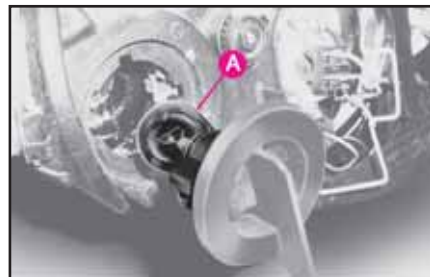

fig. 17
- 2) Remove the bulb holder **fig. 17-A** by turning it anticlockwise.